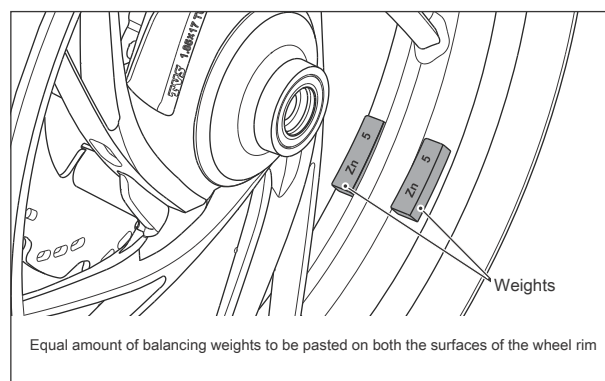

Fig. 2.132
1. Clean the exposed surface (A) of the wheel rim with IP 80% solution (cleaning agent) at the position 'Q' marked. (Fig. 2.132)